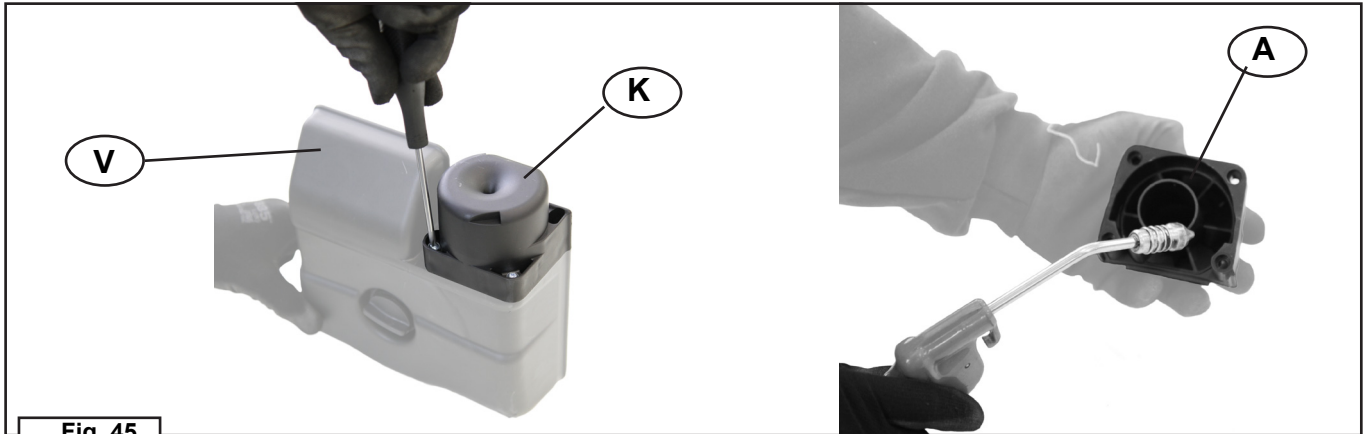

Fig. 45
24	Disassemble the pre-filter (K) and check for clogging; if necessary, remove it, from its position on the lower part of the air filter cover (V). Clean if clogged (fig. 45).